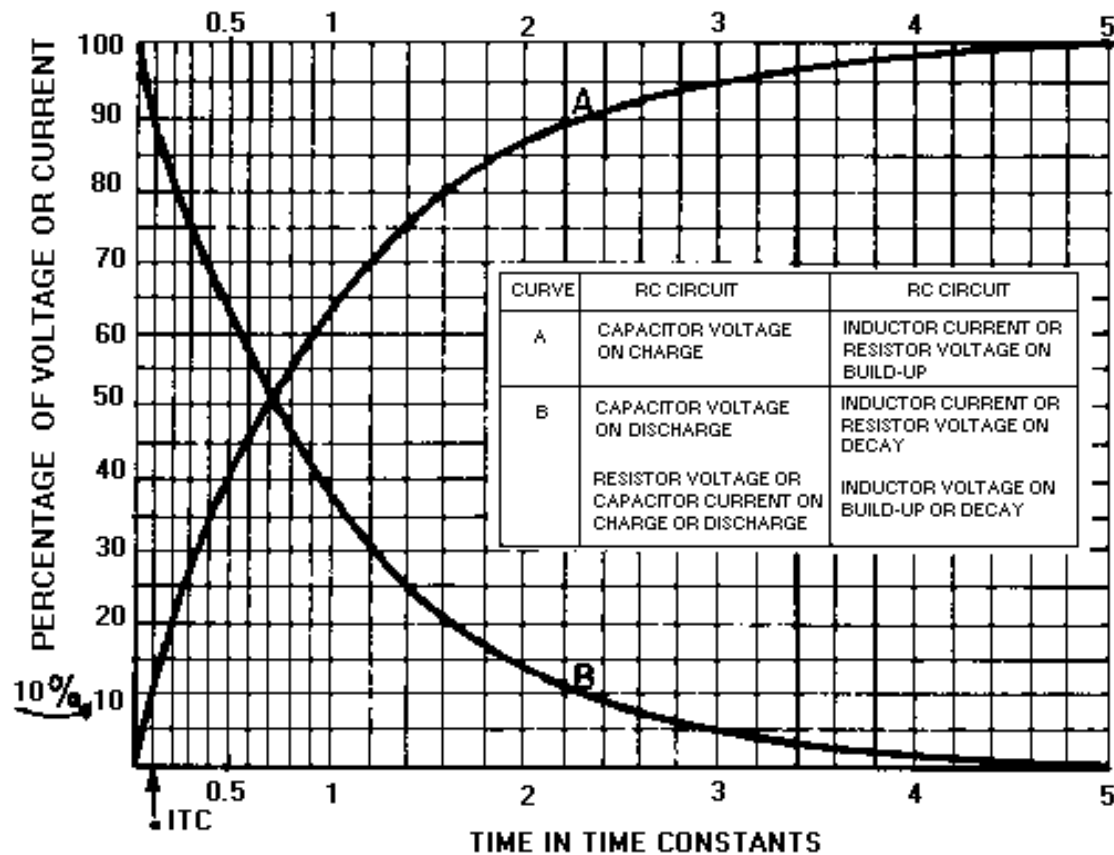

Figure 3-39.—Universal Time Constant Chart.
By selecting the sizes of R and C, you can have a time constant of any value you desire. Further, by controlling the time S1 remains closed, you can generate a sawtooth of any duration. Figure 3-39 is the Universal Time Constant Chart. Notice in the chart that if 1 time constant is 1,000 microseconds, S1 (figure 3-38, view (A)) can be closed no longer than 100 microseconds to obtain a reasonable linear sawtooth. In this example, C1 will charge to nearly 10 volts in 0.1 time constant.
As stated in the discussion of time-base generators, the waveform produced from any sawtooth generator must be linear. A LINEAR SAWTOOTH is one that has an equal change in voltage for an equal change in time. Referring to the Universal Time Constant Chart in figure 3-39, you can see that the most desirable part of the charge curve is the first one-tenth (0.1) of the first TC.
Decreasing the value of the TC (R_2 or C_2), as shown in figure 3-43, view (B), results in an increase in the number of time constants and therefore causes linearity to decrease. Anytime the number of time constants increases, the percentage of charge increases (see the Universal Time Constant Chart, figure 3-39), and amplitude (physical length) increases. Without an increase in gate length, the time that C_2 is allowed to charge through R_2 remains the same; therefore, electrical length remains the same. Linearity is affected by gate length, the value of R , and the value of C ; but is not affected by changing the value of V_{CC} . Increasing the gate length decreases linearity, and decreasing gate length increases linearity. Increasing R or C in the circuit increases linearity, and decreasing R or C in the circuit decreases linearity.
The electrical length (sweep time), which is measured from T2 to T3, can be found by multiplying RC times the number of time constants. Refer to the Universal Time Constant Chart (figure 3-39) again to find that 57 percent is 0.83TC. By multiplying 0.83 times R1C1, you will find that the electrical length is approximately 21 milliseconds: